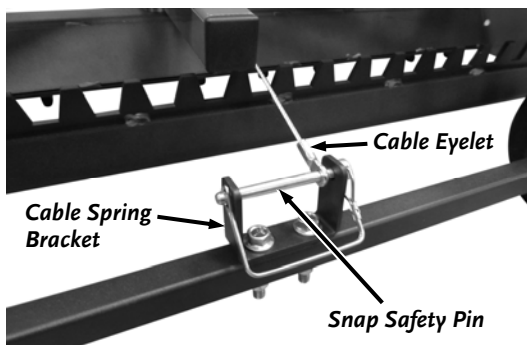
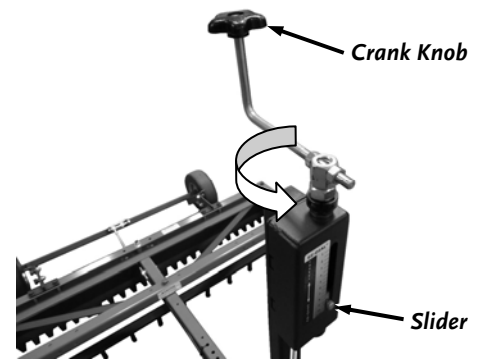
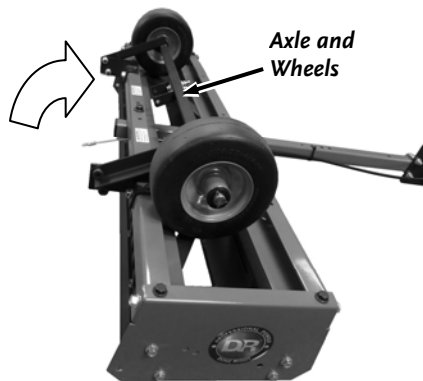

Figure 37
Figure 33
Figure 40
1. Rotate the Crank Knob counterclockwise until the Slider is at the bottom of the scale to lower the machine and take all of the weight off the Wheels (Figure 33).
1. Fully raise the Wheels (Figure 33) and remove the Snap Safety Pin from the Cable Spring Bracket to rotate the Axle Assembly out of the way (Figure 37).
5. You can reinstall the Snap Safety Pin (**Figure 37**) so you can raise the Grader when needed or you can rotate the Axle so it is resting on top of the Grader (**Figure 40**) to prevent the Wheels from leaving marks in finer materials.